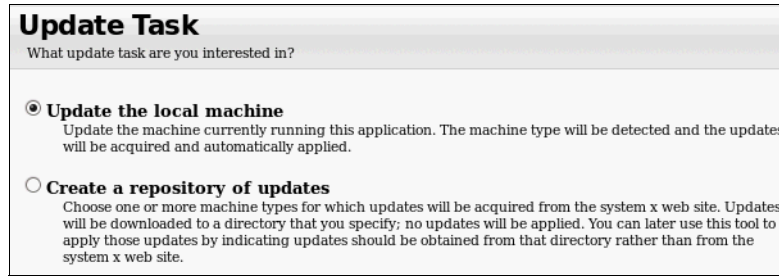

Figure 5-83 Selecting the update task
3. Accept the default **Update the local machine**, as shown in Figure 5-83. Click **Next**.